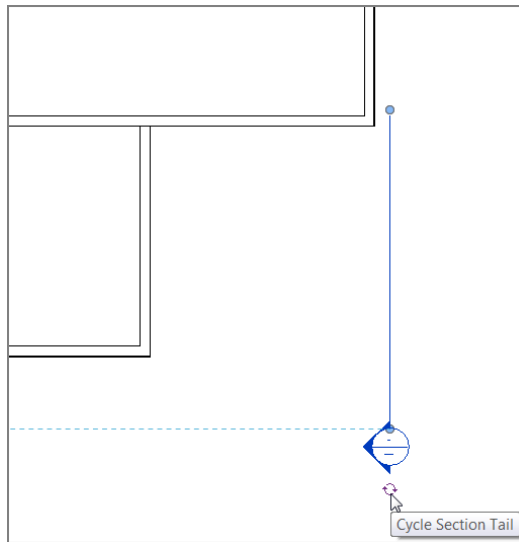

FIGURE 3.37: Cycling through the display choices
9. At each end of the section is a blue icon that resembles a recycle symbol. This controls what the section head displays. By selecting this icon, you can choose to have a section head, a tail, or nothing. At the tail of the section, cycle through until you get a section head (see Figure 3.37).